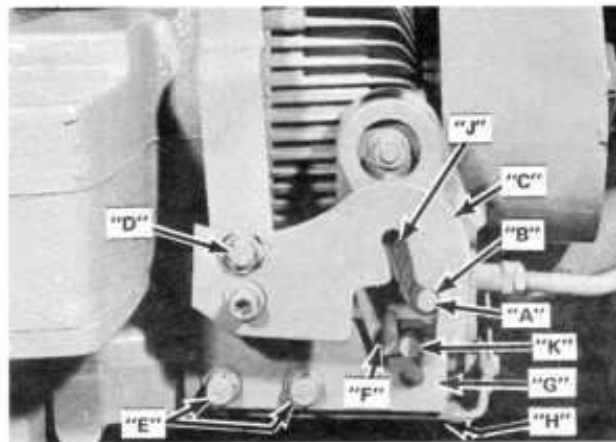

Figure 19
Refer to Figure 19. Start engine and release parking brake. If the tractor creeps "Forward" or "Backward" the "Neutral" position needs adjustment.
1. With the engine off, release parking brake and place travel pedal in full reverse position. Pin "A" Figure 19 should be tight in corner "B" of lever "C" Figure 19. If adjustment is necessary loosen capscrew "D" and adjust lever "C". Securely retighten capscrew "D" after adjustment is achieved.
4. Loosen capscrews "E" Figure 19. Hold neutral arms "F" firmly in contact with pin "K", carefully move plate "G" toward front of tractor, if tractor is creeping forward, and toward rear of tractor if tractor is creeping backward, until Hydrostatic noise ceases and wheels no longer creep.